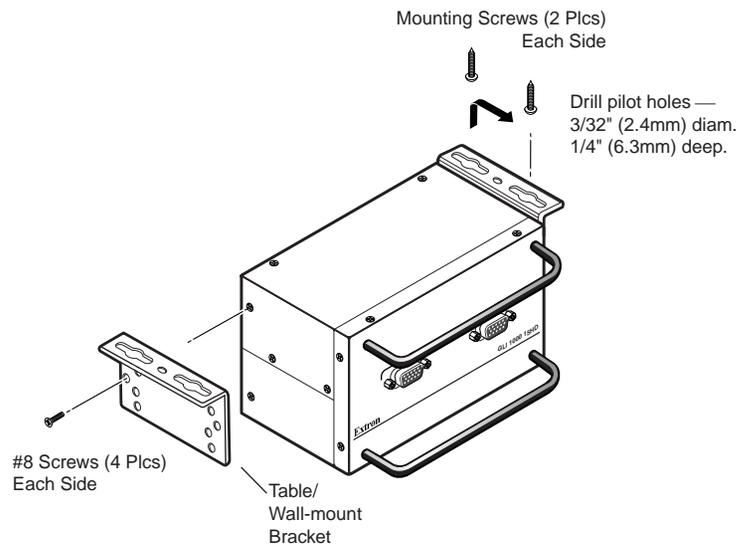

Figure 4 — Table mounting a GLI
1. Secure both optional mounting brackets to the GLI with eight #8 machine screws already installed in the side of the GLI (figure 4).